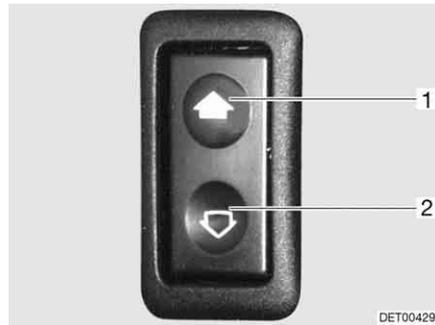

Fig. 34 Switch for electrical window winders
- Opening:* ■ Press lower part of the switch (Fig. 34,2).
- Closing:* ■ Press upper part of the switch (Fig. 34,1).